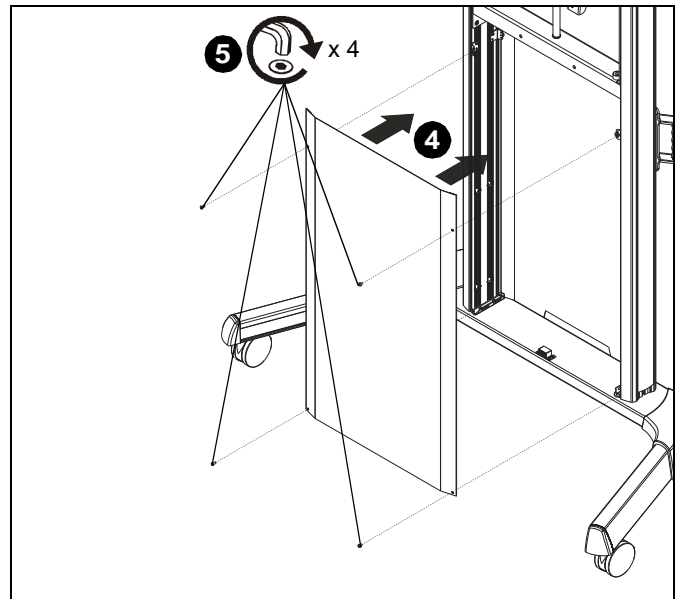

Figure 15
4. Install front cover back on cart using magnets. (See Figure 15)
5. (Optional) Re-install four button head cap screws if additional security is desired. (See Figure 15)